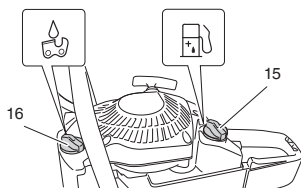

Fig. 9
⚠ WARNING (Fig. 9)
Chain oil (Fig. 9)
When pouring fuel (15) or chain oil (16) into the tank, place the unit with cap side up. (Fig. 9)